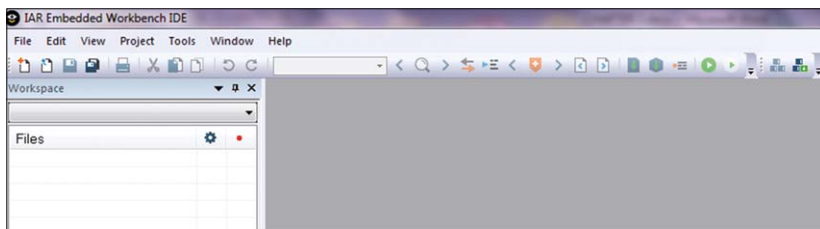

Figure 3.4: EWARM startup screen.
- Figure 3.4 shows the startup screen of the EWARM.